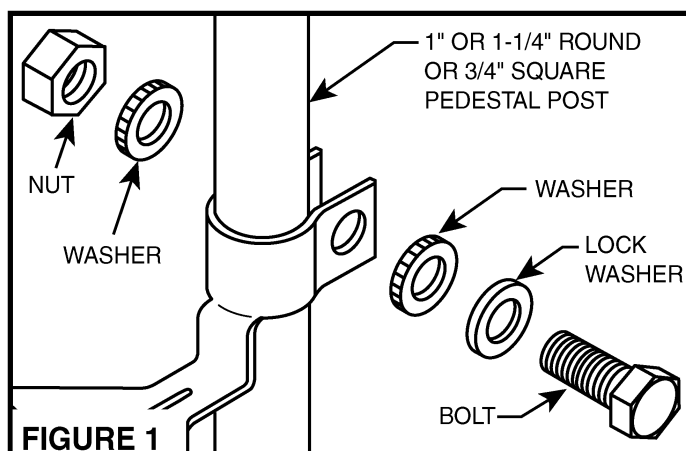

FIGURE 1
2. Secure into position by tightening nut and bolt provided (275 in lbs). See Figure 1.